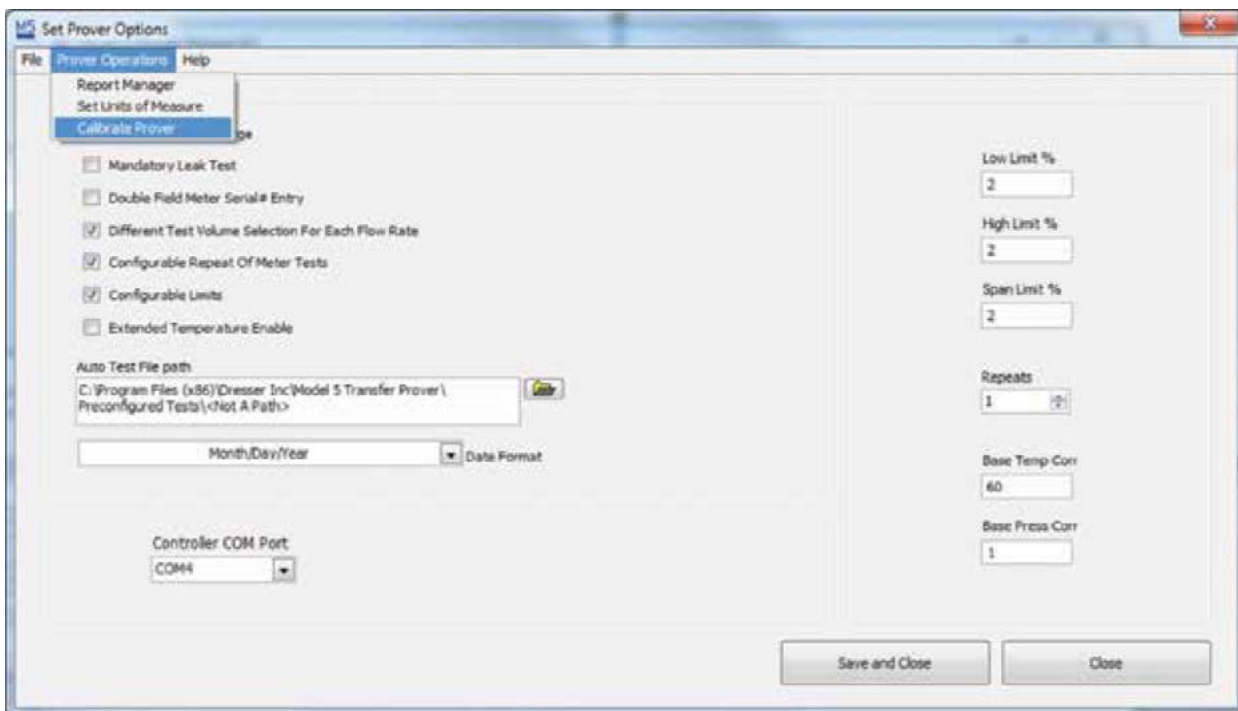

Figure 26: Calibrate Prover
6. Click “Prover Operations”. Then click, “Calibrate Prover” as shown in Figure 26. The password is “DRESSER”.